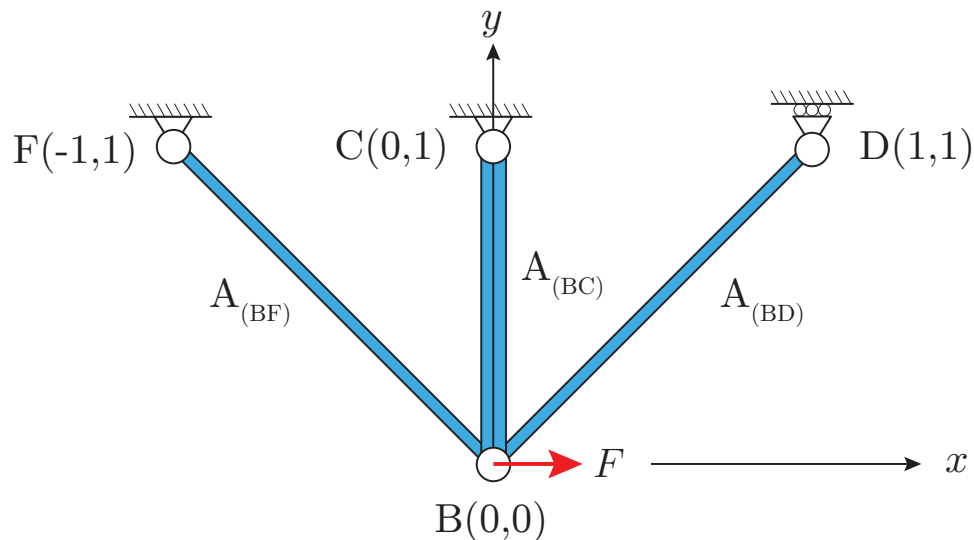

Figure 1: The three bar structure considered in problem 1
Paper Problem Three bars and a load (40 Points): Consider the three bar structure shown in Figure 1, which is subjected to the prescribed load at point C equal to $10kN$. The bars are made of a linear elastic material whose Young's modulus is $E = 100GPa$. The cross sectional area of bar (BC) is $A_{(BC)} = 200cm^2$ whereas that of (BD) and (BF) is $A_{(BD)} = A_{(BF)} = 50\sqrt{2}cm^2$. Coordinates of points shown in the figure are given in meters. *Note that point D is free to move in the x -direction*